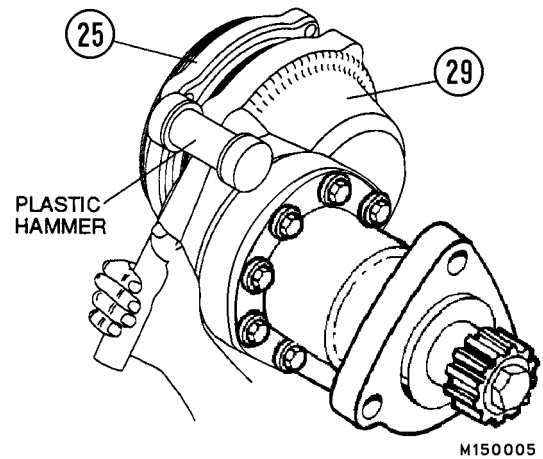

FIGURE 15-6.
7. Tap the intermediate gear case (25, Figure 15-6) with a plastic hammer to dislodge it from the gear case (29).